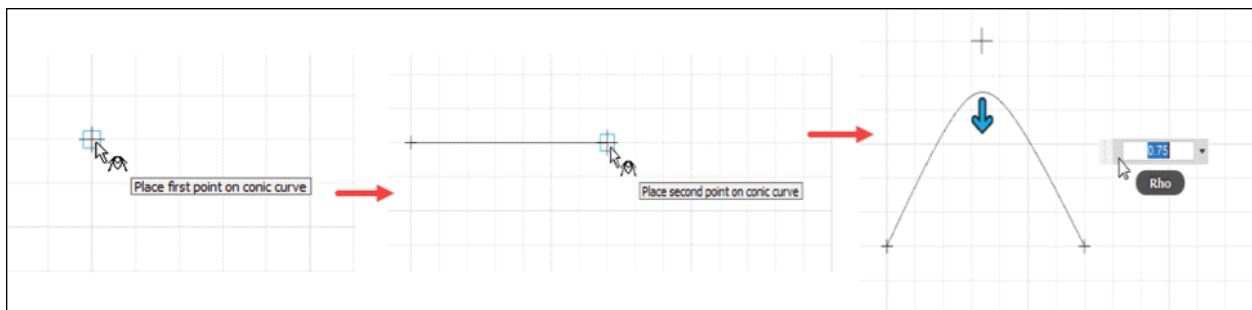

Figure-41. Creation of conic curve
- Enter the **Rho** value in **Rho** dynamic input box for the conic curve; refer to Figure-41. The curve will be created. The value of rho lies between **0** to **0.99**.